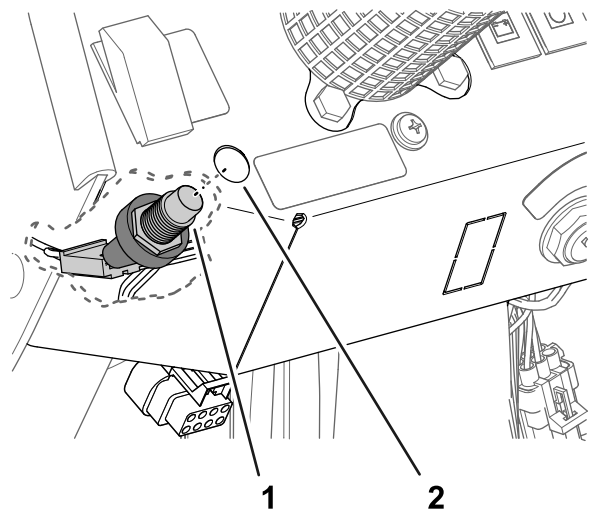

Figure 26
5. From under the dash panel, align the body of the horn switch through the hole (Figure 26) in the dash panel that you made in step 1.